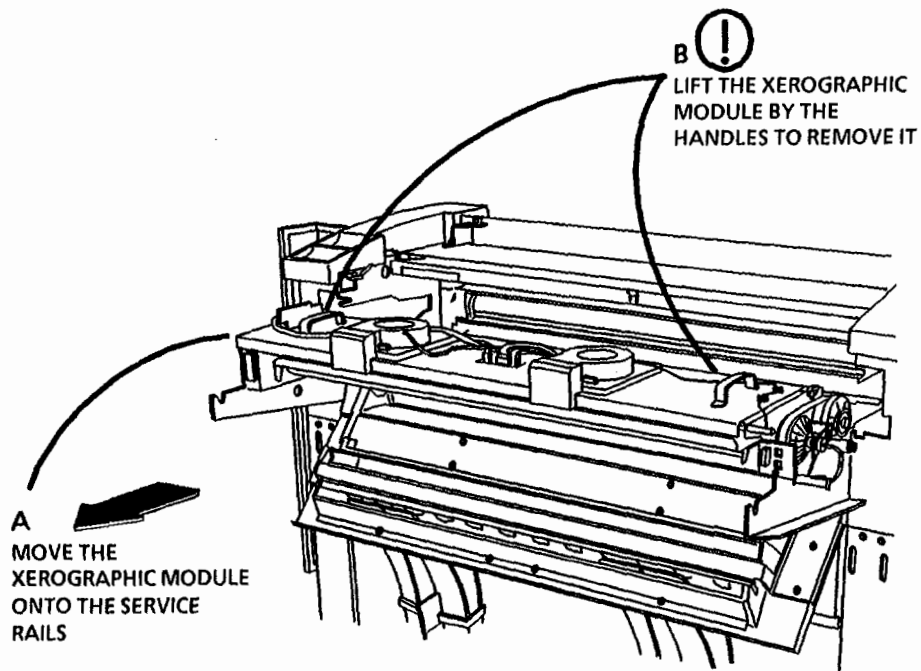

Figure 5. Remove the Xerographic Module to a Clean Flat Surface
7. (Figure 5): Remove the Xerographic Module to clean, flat surface if not being serviced on the service rails. Place a ream of paper or other supports at each end of the module frame to prevent damage to the photoreceptor drum or fuser roll.